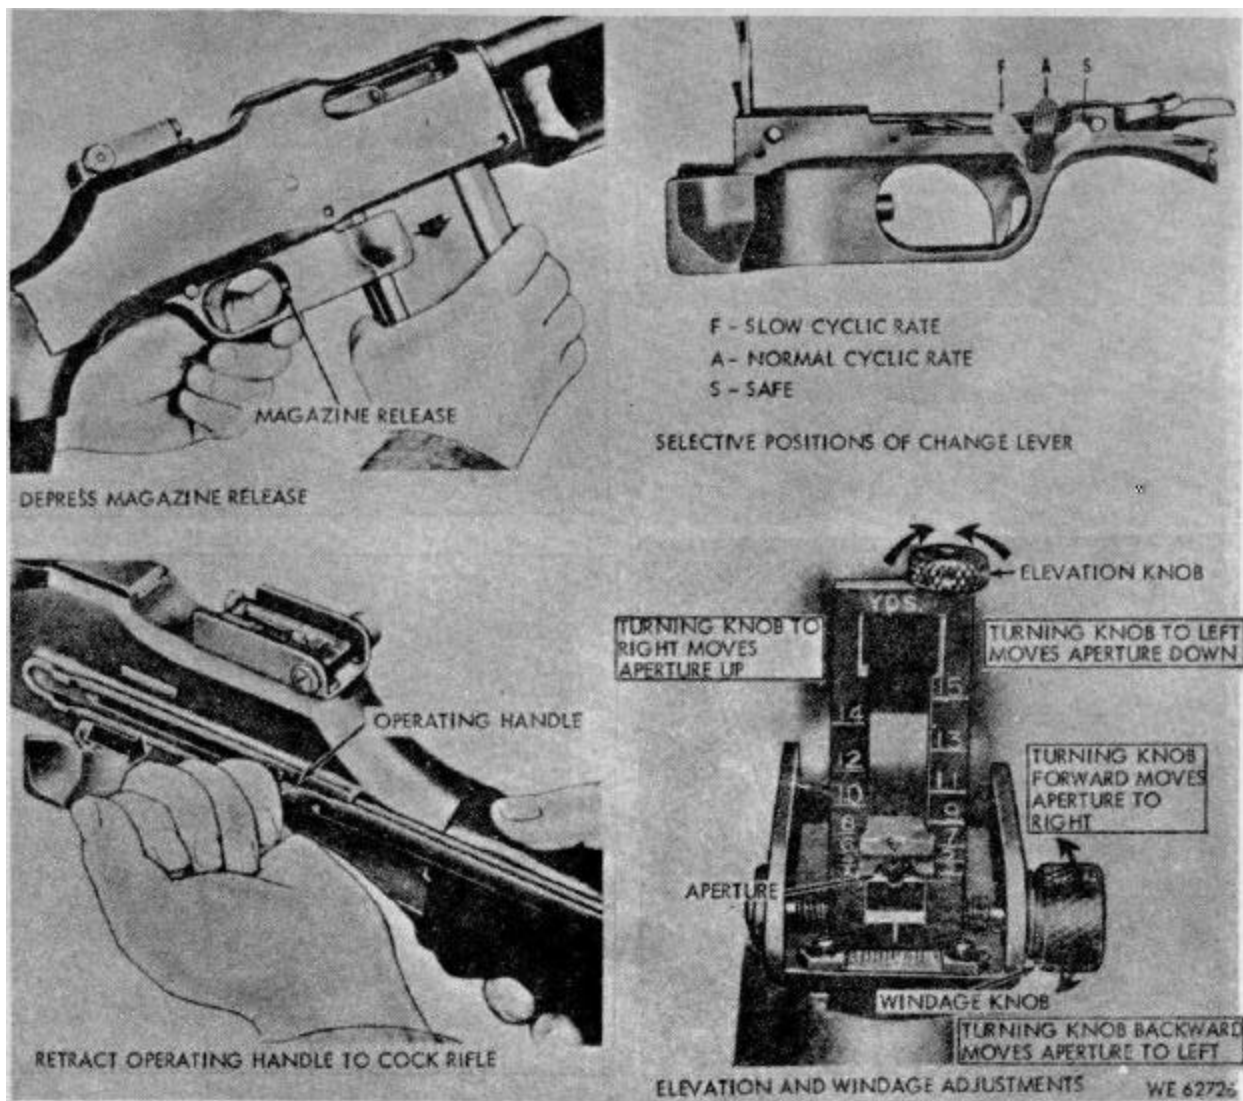

Figure 2-1. Controls.
Refer to figure 2-1 for controls and their functions.
- b. Loading the Rifle. Before loading the rifle, set the change lever to S (safe position, fig. 2-1). The weapon is cocked before a magazine
b. *Change Lever*. The automatic rifle has capabilities for two distinct cyclic rates of fire (fig. 2-1). This determination is made by the appropriate positioning of the change lever. There are three possible positions for this change lever. Note that repositioning of the change lever does not necessitate the cocking of the weapon.
c. *F Setting*. With the change lever in this position (fig. 2-1), the weapon's firing capability is at the slow cyclic rate (about 350 rounds per minute). When the trigger is depressed or held back on a loaded weapon, the rifle will continue to fire at this rate until the trigger is released or the magazine is emptied.
d. *A Setting*. Normal cyclic rate is experienced when the change lever is positioned at setting A (about 550 rounds per minute) (fig. 2-1).
e. *S Setting*. When the change lever is positioned at S (fig. 2-1), the automatic rifle cannot fire and is safe. Because the trigger is blocked by the change lever from initiating the firing function, it remains immobile when pressure is applied.